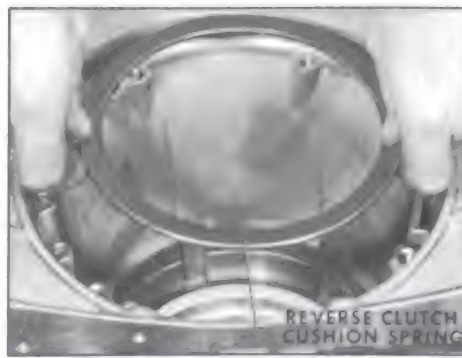

Figure 5-152
4. Remove reverse clutch cushion spring. See Figure 5-152.